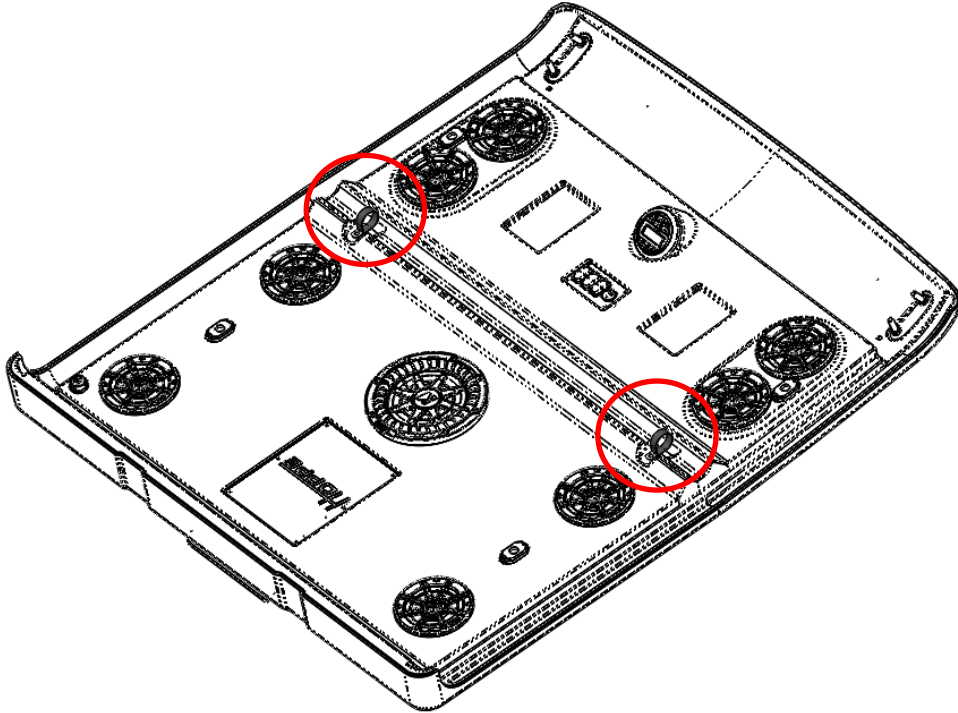
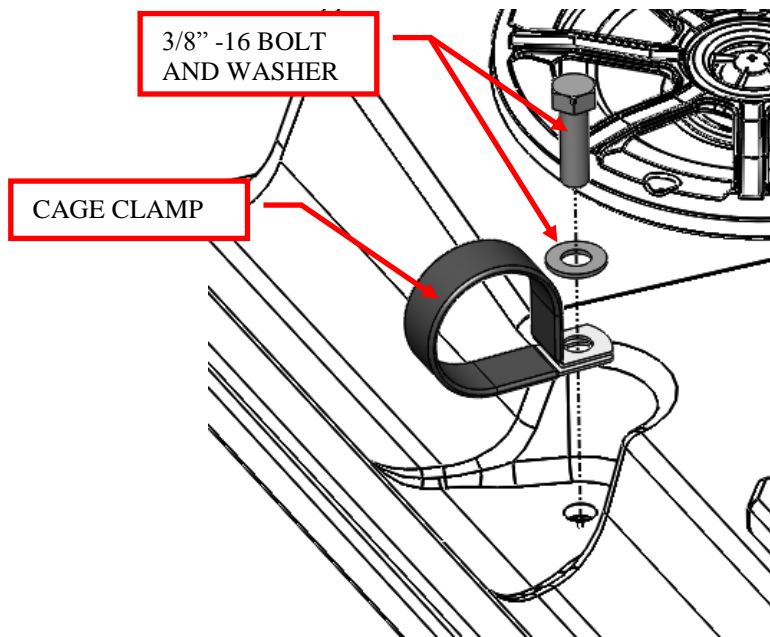

Figure 2: Remove the 2 clamps from the top.
Figure 3: Close up of cage clamp hardware.
1. Remove the cage clamps and 3/8”-16 bolts and washers that come pre-installed on the top. Save the hardware for installation. See Figure 2 and Figure 3.
7. Slide the loop clamps into position so they line up with the threaded holes in the top. For both clamps, install the 3/8-16 bolt with washer through both clamp tabs and into the threaded hole in the top. Use blue Loctite 243 (medium strength) and torque the bolts to 25 ft.*lbs. See Figure 3.